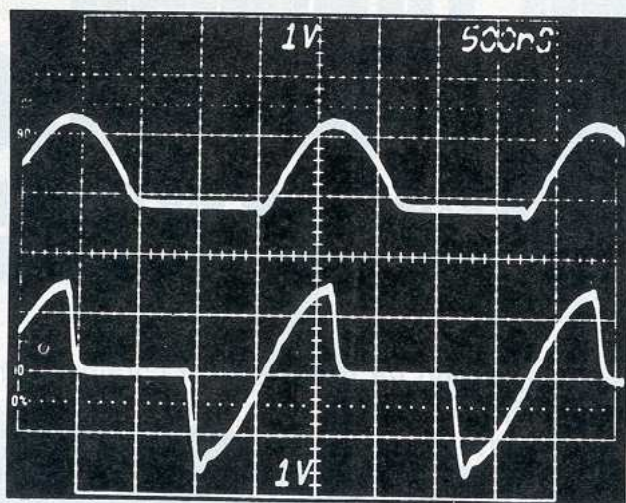

Fig. 6. The I and Q waveforms at pins 14 (top) and 15 (bottom) of IC2.
**Adjustment.** After interfacing the receiver to the synchronous detector, place mode switch *S1* in the TUNE position and tune in a station. If the i-f signal level is above the 50 mV p-p minimum, pin 1 of IC5 should be between -4.5 and +4.5 volts. Tune *L1* for the most negative voltage at this pin. Adjust *L3* until tuning meter *M1* indicates correct center-channel tuning. The PLL should now be locked, and the LOCK LED should illuminate. Adjust *L2* for maximum dc voltage at pin 1 of IC4. As there is also audio present at pin 1, use of a conventional mechanical-movement voltmeter (instead of a digital meter) will avoid confusing readings. This is a coarse adjustment of *L2*. The I and Q channel detector waveforms, at pins 14 and 15 of IC2, are shown in Fig. 6.